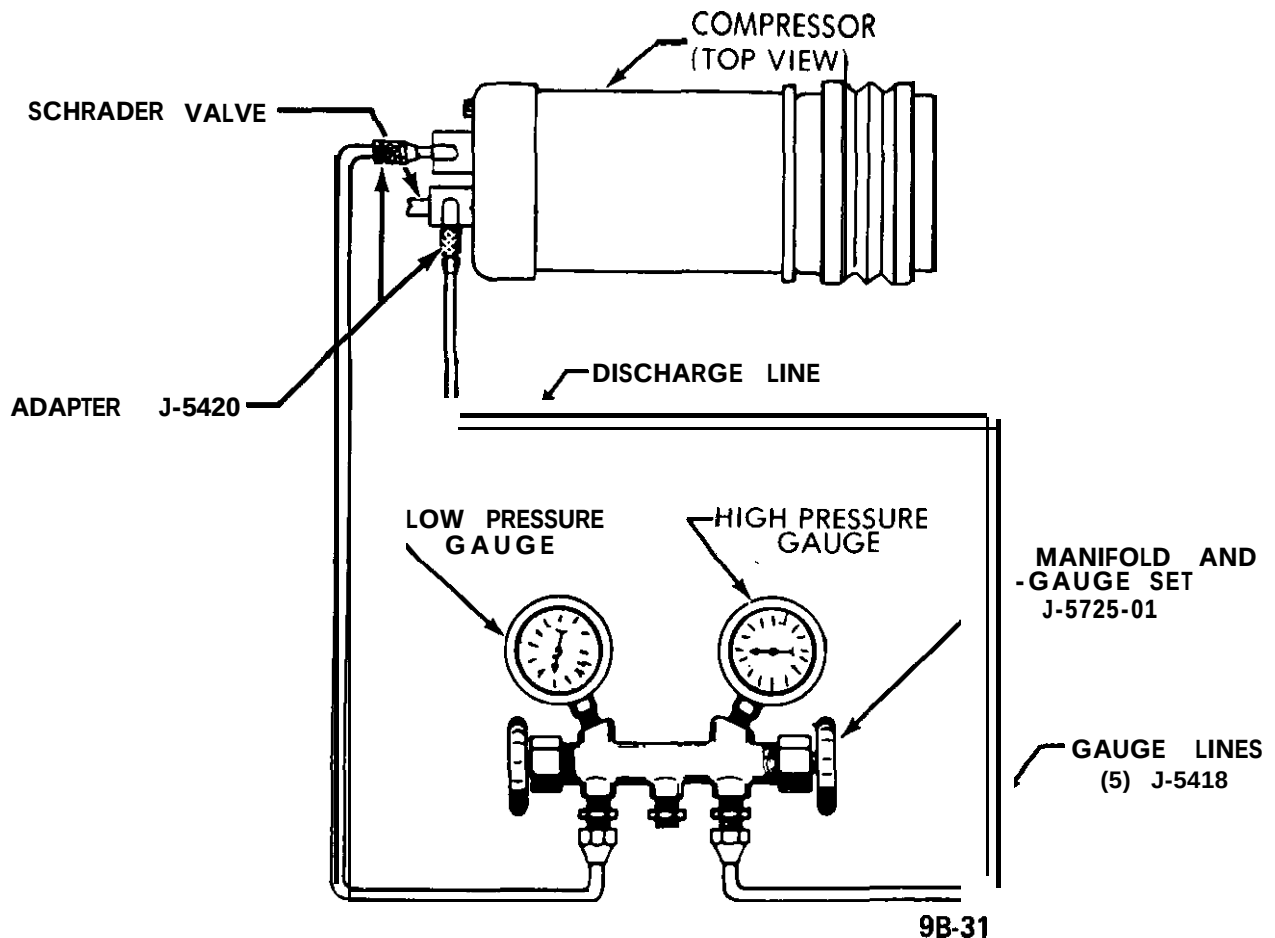

Figure 9B-40 Functional Test Set-Up
2. Interconnect manifold and gage set (J-5725-01), gage charging lines (J-5418) and gage adapters (J-5420) to air conditioning **system as** shown in Figure 9B-40.
6. Run engine at 2000 RPM for ten (10) minutes with car doors and windows closed and the hood up. Place a high volume industrial type fan in front of radiator if head pressure should **exceed 250** psi and also at high **ambients** to bring the pressures to within the limits specified in the Functional Charts in Division V.